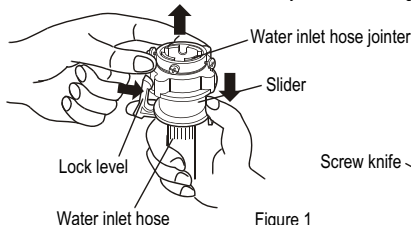
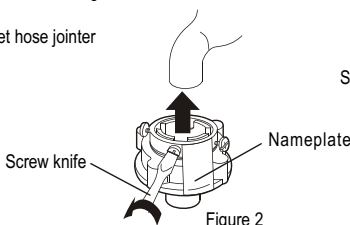
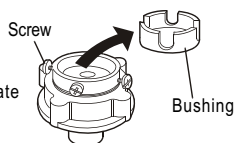

Figure 1
Figure 2
Figure 3
3. Put down the outer drain hose. Twist the drain hose nut counterclockwise to take it off as indicated in Figure 1. Take off the drain hose rack. Put the drain hose into the cabinet as indicated in Figure 2.
1. Press the lower end of the lock lever and push down the slider. Take off the water inlet hose jointer from the water inlet hose component. See to Figure 1.
2. Loosen the four screws of the water inlet hose jointer till the water faucet can be accessed. Then set the water inlet hose jointer on the faucet. See to Figure 2. If the faucet is too large and the jointer cannot be set on, please loosen the four screws and take out the bush inside the jointer. See to Figure 3.